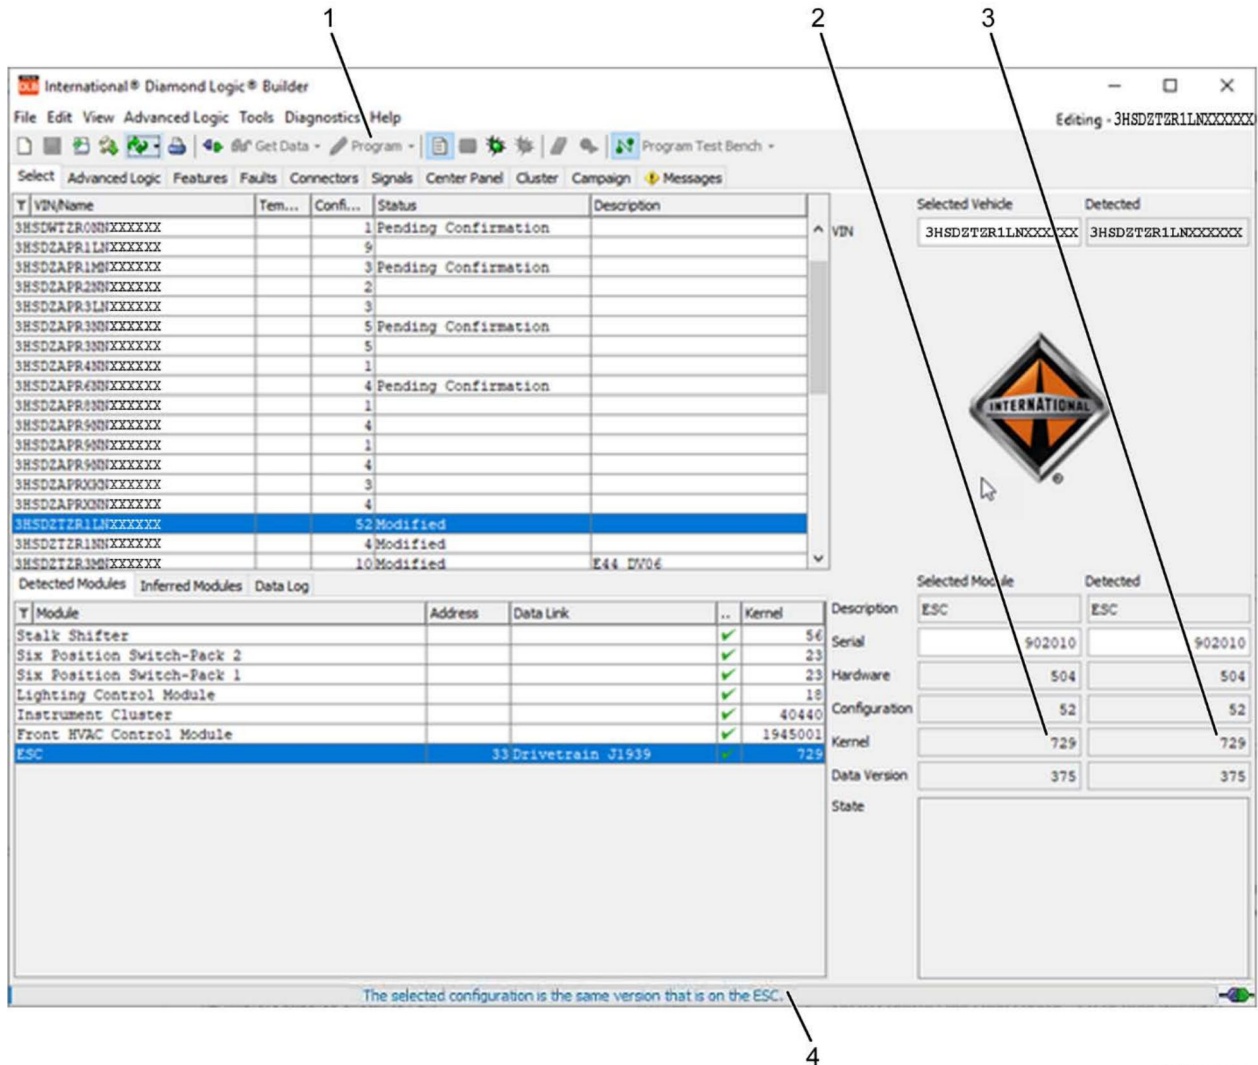

Figure 2. Programming Complete
NOTE: When update has been completed for selected module, kernel version listed in **Selected Module** column (Figure 2, Item 3) will match version listed in **Detected** column (Figure 2, Item 2). Also, status bar (Figure 2, Item 4) will display message: The selected configuration is the same that is on the ESC.
11. Click **PROGRAM** button (Figure 2, Item 1) in toolbar to begin updates. DLB will indicate programming status in status bar (Figure 2, Item 4) located at bottom of window.
13. Confirm that ESC module kernel version has been updated to 729 (Figure 2, Items 2 & 3) or higher.